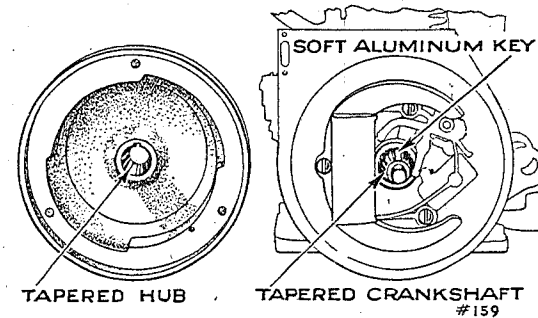

Fig. 6.
41. **Replacing the flywheel.** When completing any necessary work, replace the flywheel, being sure to use the soft Woodruff key supplied. The key is only for the purpose of locating the flywheel on the crankshaft in the correct position so that the magneto will be correctly timed. The flywheel is driven, however, by being a tight taper fit on the taper of the crankshaft. This taper is shown in Fig. 6.) In case the flywheel should come loose, the soft Woodruff key is designed to shear off so that no damage will be done. Therefore, a steel key should never be used. After the flywheel is in place, has been located with the key and nut or pulley has been screwed up, this nut or pulley should be made **VERY TIGHT**. This can be done as shown in Fig. 7 by striking the wrench handle or bar with a hammer.